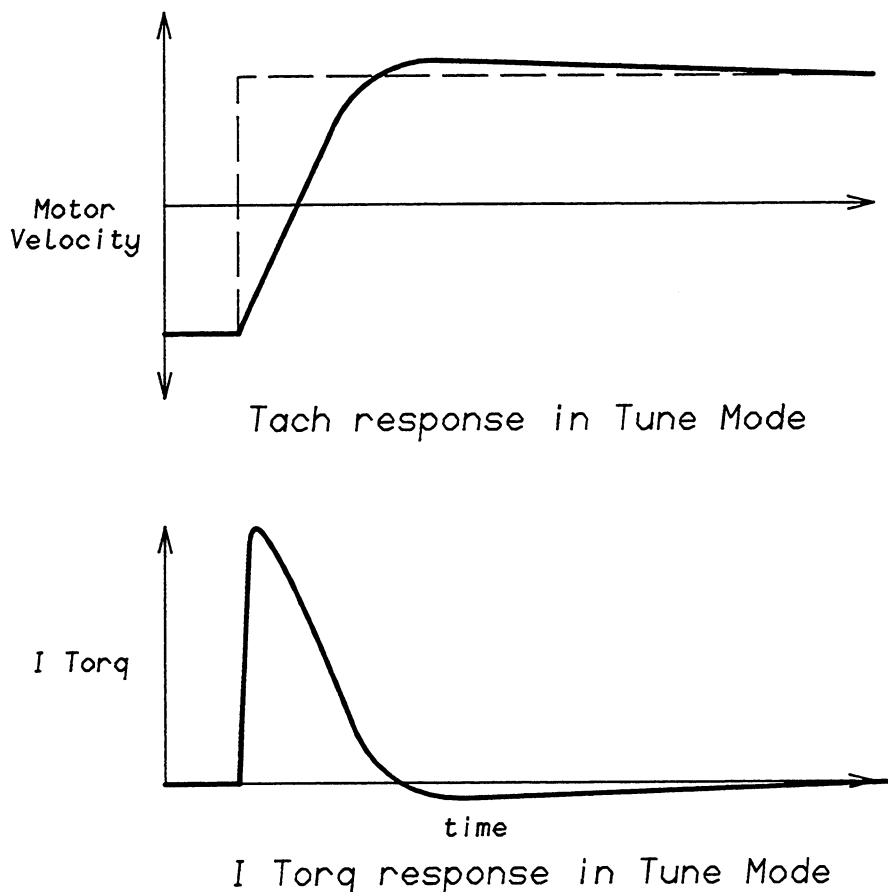

Figure 5-12 Typical Small-Signal Response for Well-Tuned System
- 17.) Increase I GAIN until the acceptable limit for the amount of overshoot is reached. The Tach and I Torq signals should look similar to those shown in Figure 5-12.